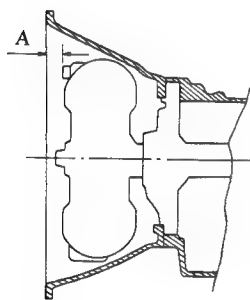

Fig. AT-50 Installing torque converter
3. When connecting torque converter to transmission, measure distance "A" to be certain that they are correctly assembled. See Figure AT-50.